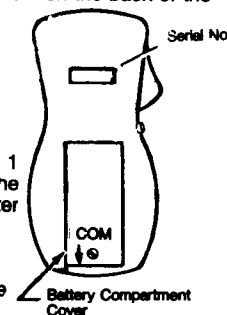

Figure 4
- 1) loosen screw located toward the bottom on the back of the instrument. (See Fig. 4)